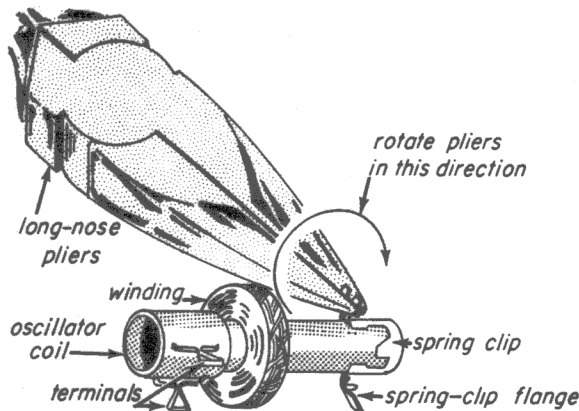

Fig. 30-4
a. Grasp one of the flanges of the spring-clip mounting mechanism (Fig. 30-4) in the jaws of your long-nose pliers. Apply light rotary pressure to the spring-clip flange so that it bends slightly away from the cardboard-coil form.